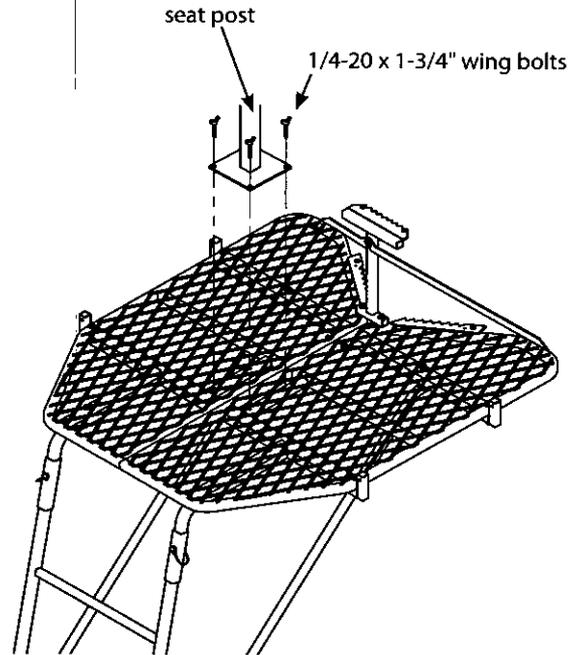

Figure 9
12. Carefully raise the seat assembly to the platform using the hoist rope (SEE FIGURE 8) and place seat post on top of the platform and align the 4 holes in seat post plate to the 4 holes located in the center of the platform. Remove (4) wing bolts from your pocket and use them to secure the seat post/seat assembly to the platform. Wing bolts should be inserted from the top and threaded into the nut welds located on bottom side of platform. **TIGHTEN SECURELY BY HAND, SEE FIGURE 9.**